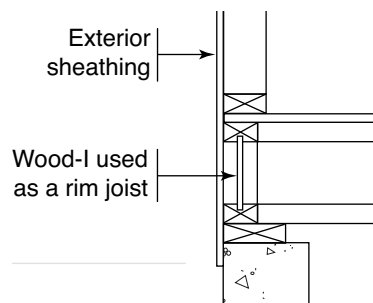

FIGURE 8
- ◆ Rim joists or blocking panels can be used instead of rim boards. Rim joists are wood-I joists that run around the perimeter of the floor system to transfer the vertical loads from above. Sawn lumber is not used, as it will shrink and transfer loads to the floor joists. Care must be taken when using wood-I joists as rim joists to ensure that the floor joists have adequate bearing on the wall or sill plate. Check the manufacturer's requirements for minimum bearing lengths (see Figure 8).